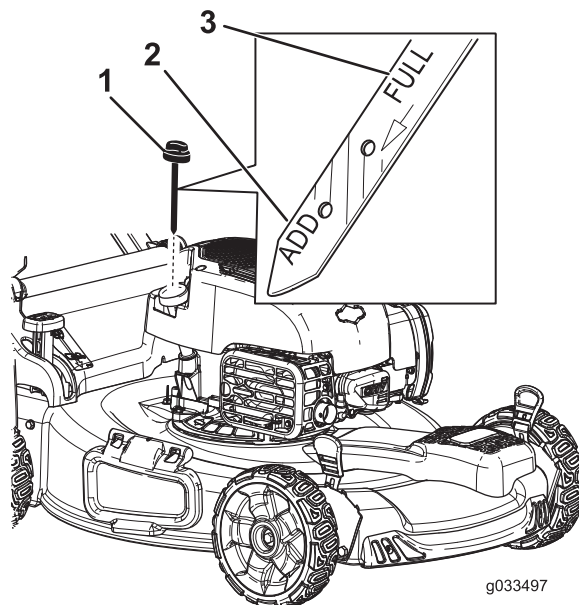

Figure 14
2. Remove the dipstick (Figure 14).
5. Remove the dipstick and read the oil level on the dipstick; refer to Figure 14.